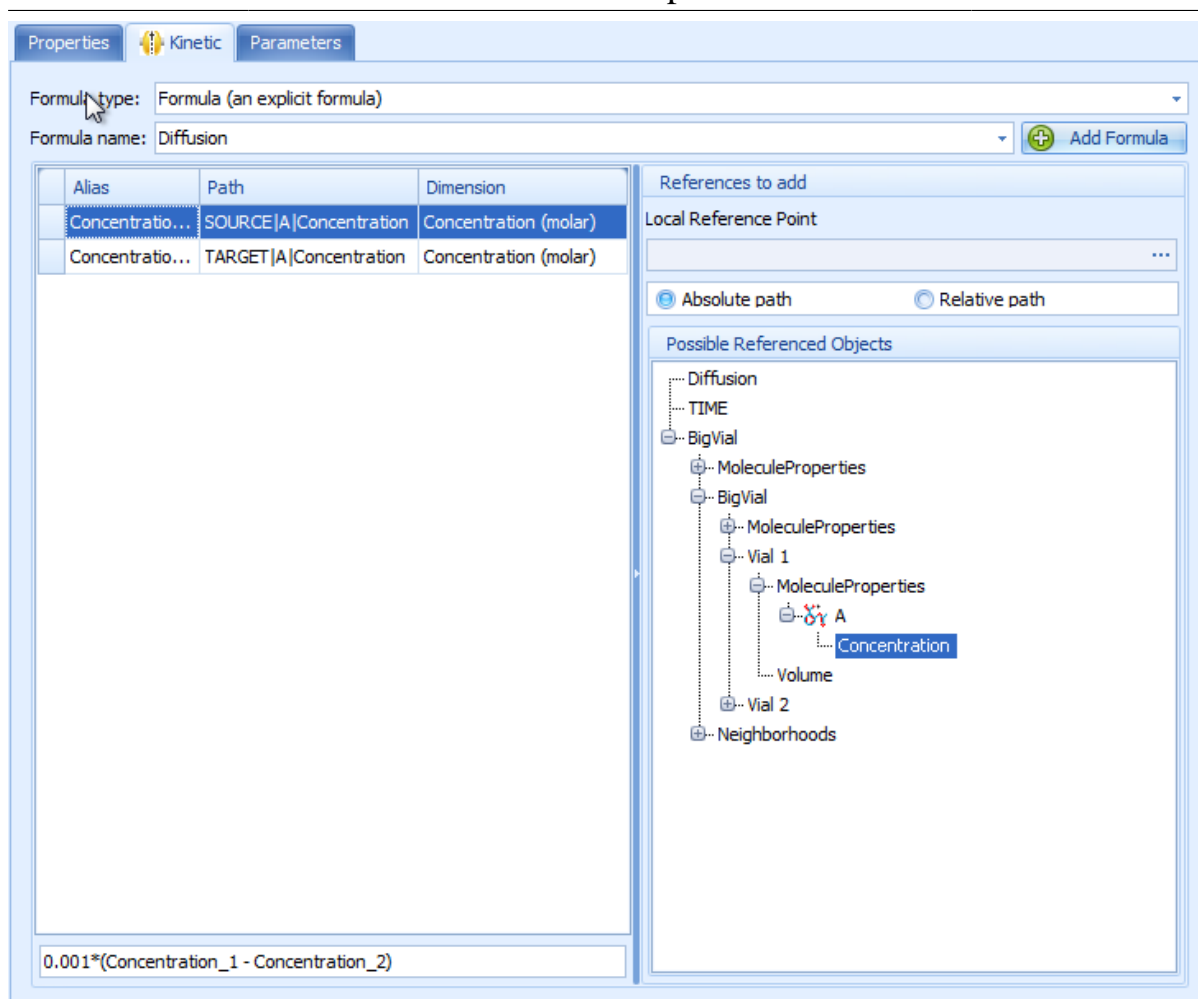

Figure 25.14. Passive Transport has been added - Kinetic Tab
6. Compare your screen to Figure 25.13 and Figure 25.14. If you want to change the aliases manually, you can do so by clicking on any name input box and replace the corresponding name with another.
7. Now enter the formula "0.001*(Concentration-Concentration1)" into the formula input box below the references. The error symbol  that was displayed to the left of this input box should now disappear, if everything is typed correctly. Compare your result again with Figure 25.13 and Figure 25.14.